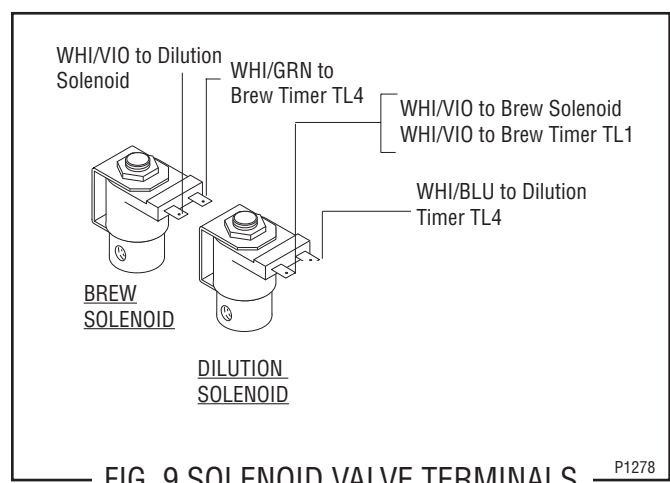

FIG. 9 SOLENOID VALVE TERMINALS
10. Refer to Fig. 9 when reconnecting the wires.